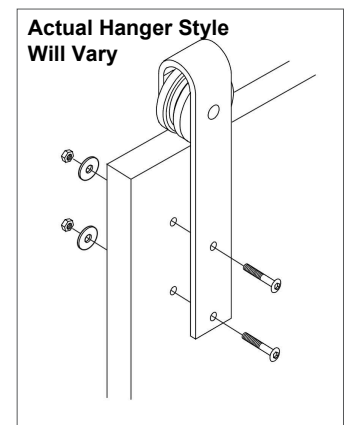

Figure 6
9. Install the hangers to the front of the door using the button head bolts, washers and nuts provided (Figure 6).
9. Hang the door (Figure 6).